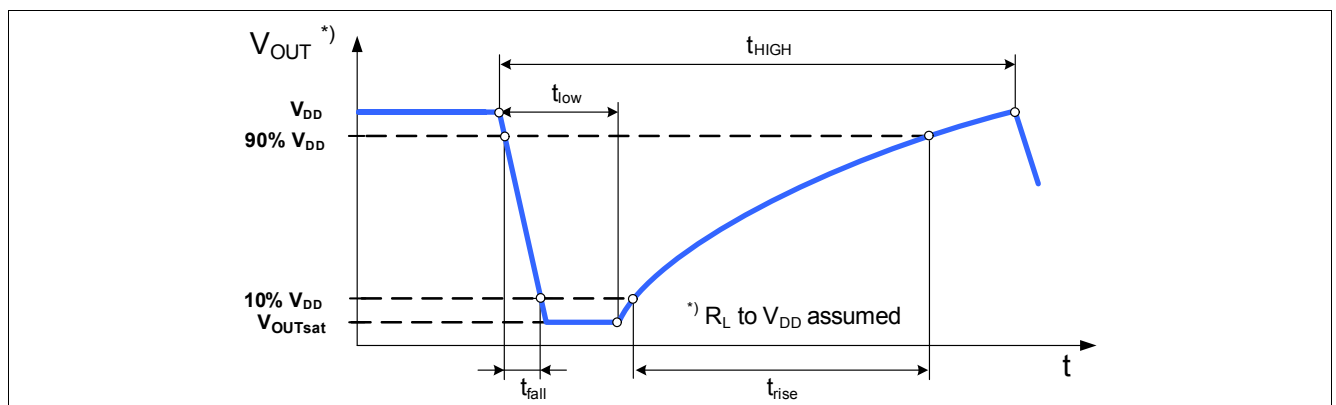

Figure 5-1 Output Characteristic
4) Depends on External R_L and C_L , See Figure 5-1